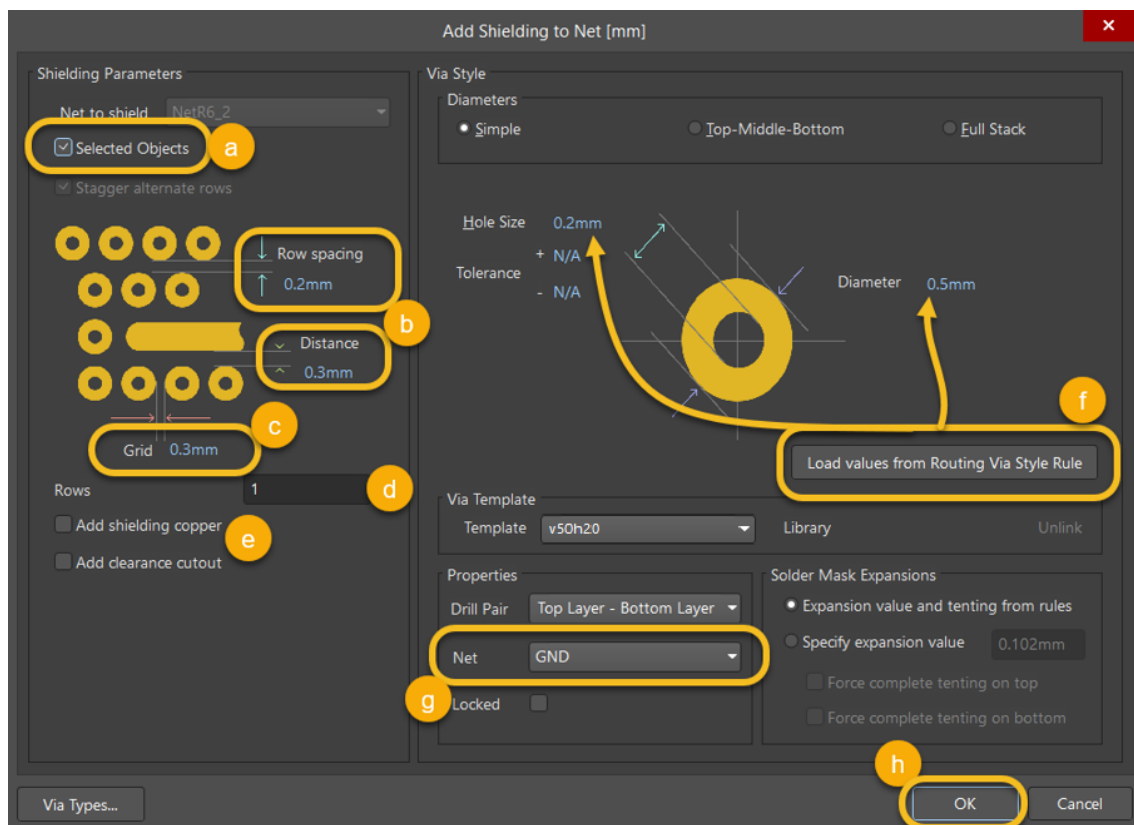

Figure 2. Via Shielding properties
13. Use Figure 2 below as a reference to change the following values: